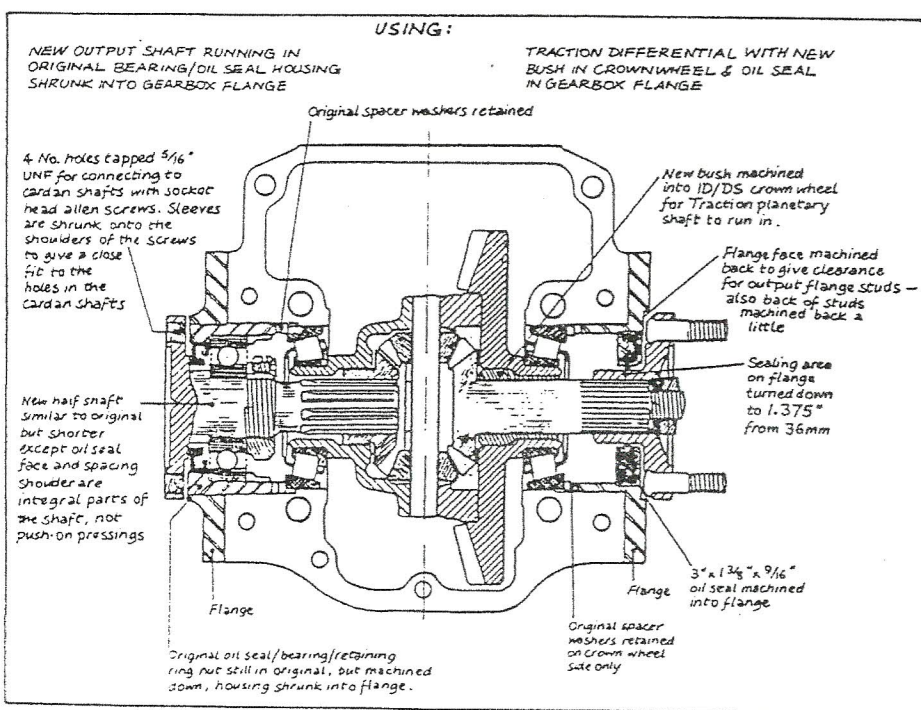

Fig. 11. Section through ID/DS gearbox showing conversion using
We have changed Peter's order of presentation so as to deal with the gearbox output shafts first, since a functionally-similar but engineeringly-different version was quite recently described in Front Drive 12 (3) as developed by Roger Williams (UK). In particular, readers are directed to Roger's Fig. 11 (left-hand output shaft) in the article reproduced in the above FD number (article reproduced with thanks to Traction Owners Club (UK) from Floating Power November 1986).
This layout is shown on the right-hand side of Fig. 11.
did by machining down the outside of the housing and shrinking it into the flange, as shown in the left-hand side of Fig. 11.